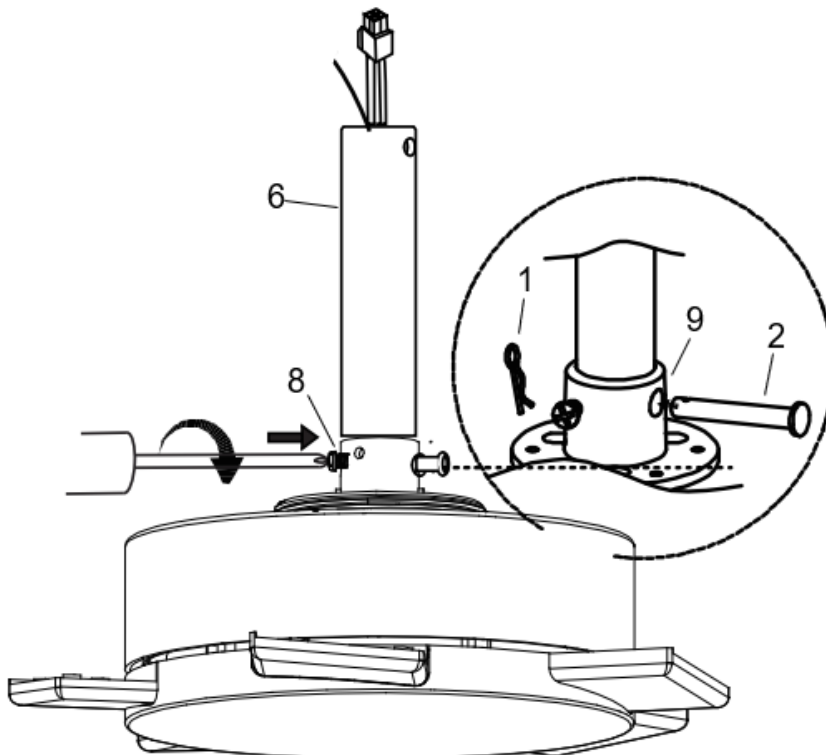

Fig. 4.4
3. Carefully feed the fan wires up through the down rod (6). (fig. 4.4)
4. Assemble the down rod (6) into the down rod coupling housing (9), by inserting and line up the down rod coupling housing holes with the down rod holes and insert the hitch pin (2) and secure with the lock clip (1). (Fig. 4.4)
5. Secure the down rod (6) by tightening the set screws (8). (Fig. 4.4)